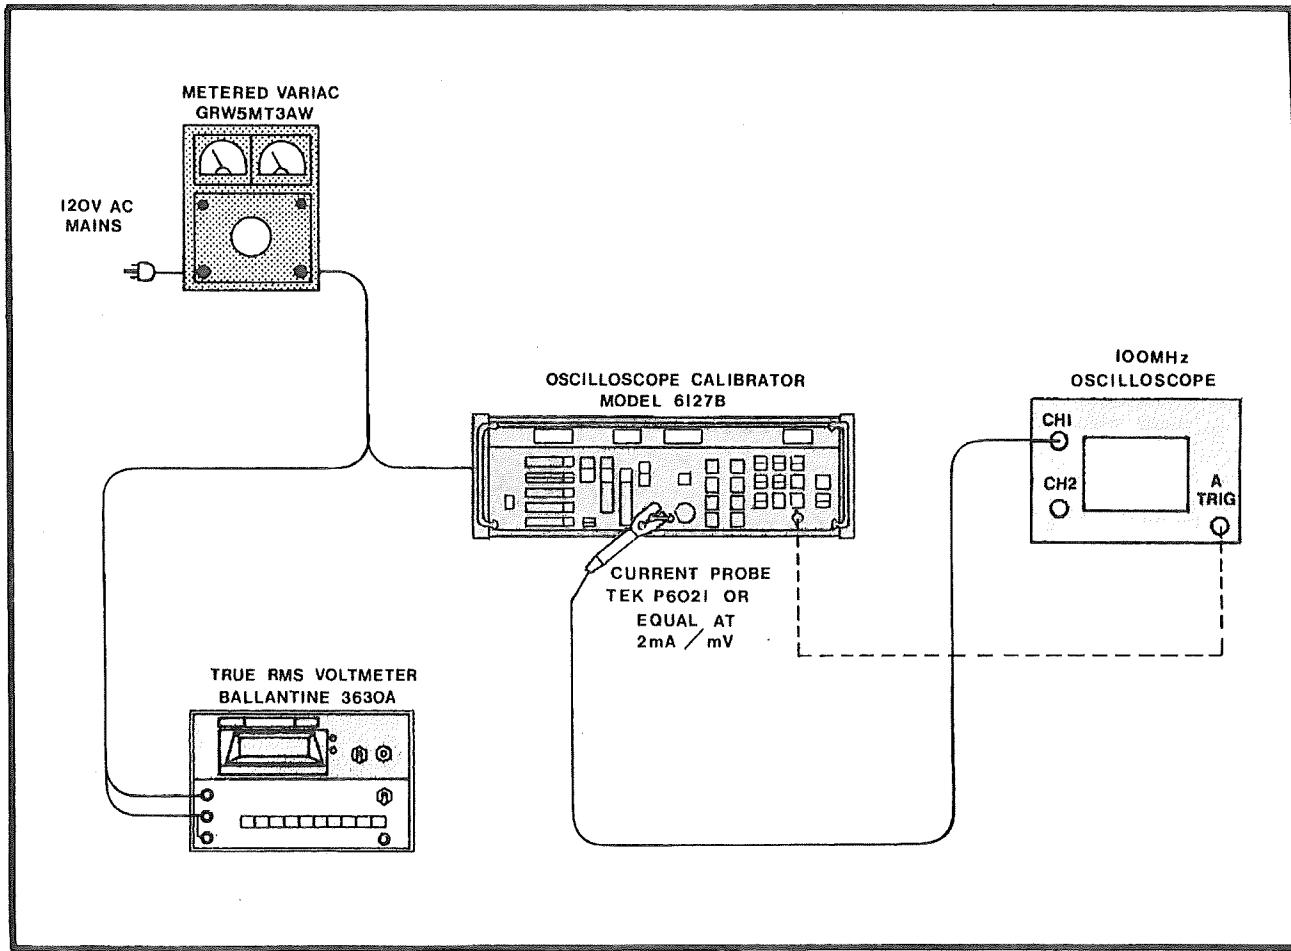

Figure 5-7. MILLIAMPERES/DIV Output Check, Test Set-Up
a. Connect the equipment as shown in figure 5-7. Use a current probe with 2 mA/mV sensitivity such as the Tektronix P6021 or equivalent.